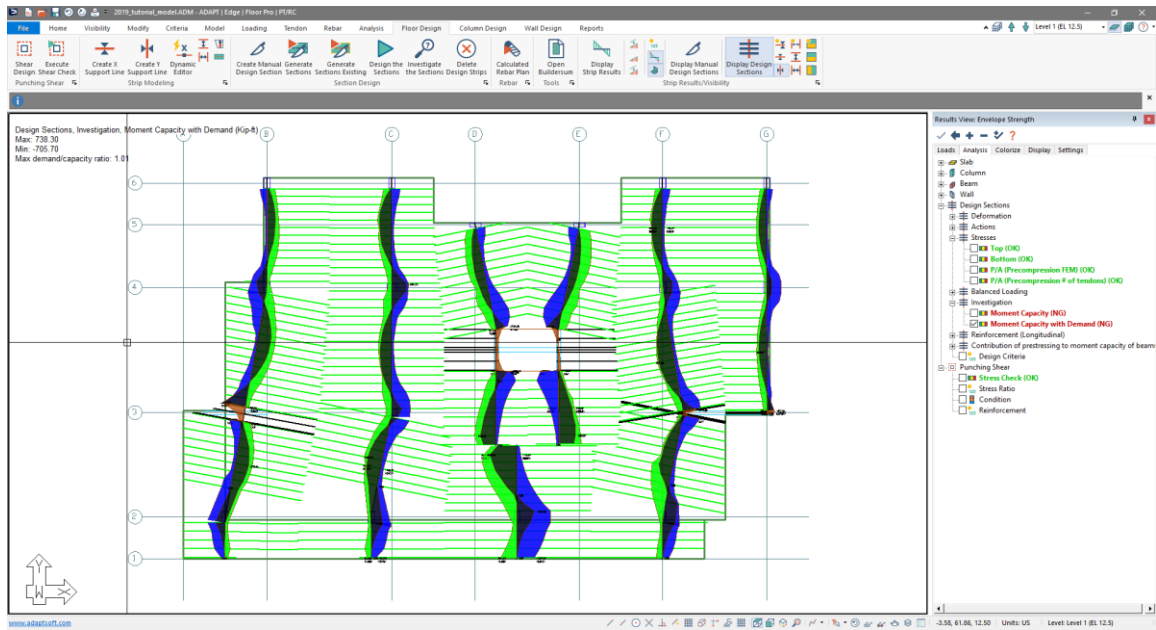

Figure 9-110
- Go to *Floor Design* → *Strip Results/Visibility* click on the *Display/Hide Support Lines in the Y-direction*  icon. The user should now see a screen similar to **FIGURE 9-110** below.